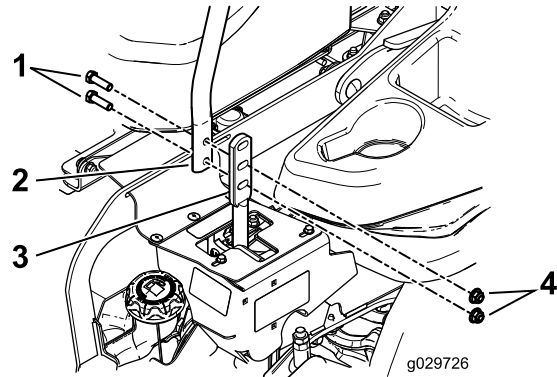

Figure 83
3. Loosen the bolts and flange nuts installed in the levers (Figure 83).
4. Align the levers in the front-to-rear position by bringing the levers together to the NEUTRAL position, and slide them until they are aligned, then tighten the bolts (Figure 83).